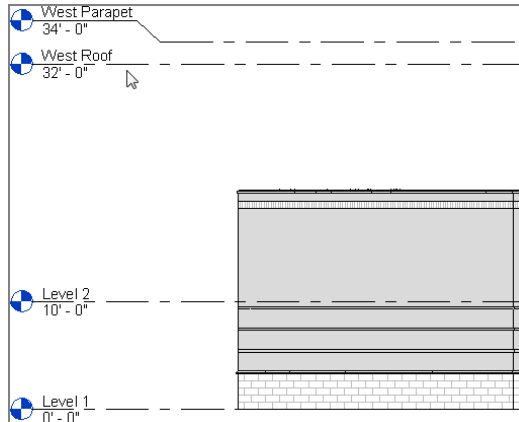

FIGURE 3.27: You can drag the 2D level ends wherever you want them.
8. Pick the blue grip, and drag the end to the left side of the building, approximately to the location shown in Figure 3.27. Notice that the two 2D lines are locked to one another.
11. Switch these levels to 2D, and drag them to align with the West Parapet and West Roof levels, as shown in Figure 3.27. (If you can't pick a level, hover over it with your cursor, and press the Tab key. When the level highlights, pick it.)